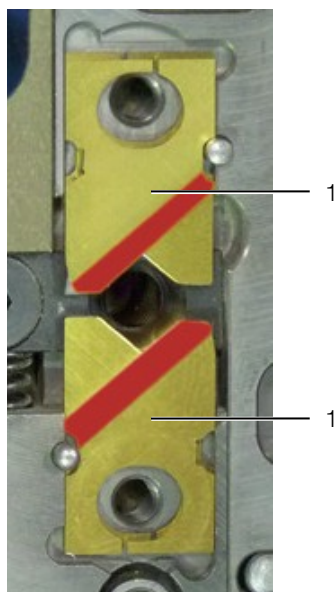

Fig. 26: Insert blades
- Assemble each blade pair so that the bevelled edges point outwards (marked red in fig. 26).